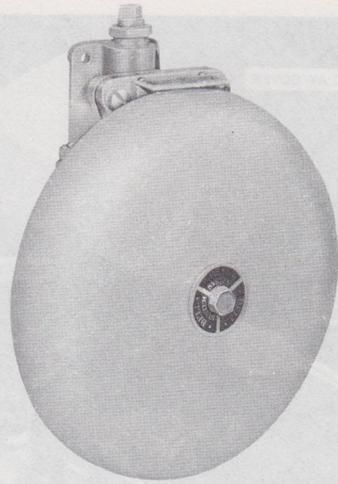

Fig. 11—KS-8547, List 1 Bell
3.12 Signals, KS-8000 Series (Fig. 11 and 13)